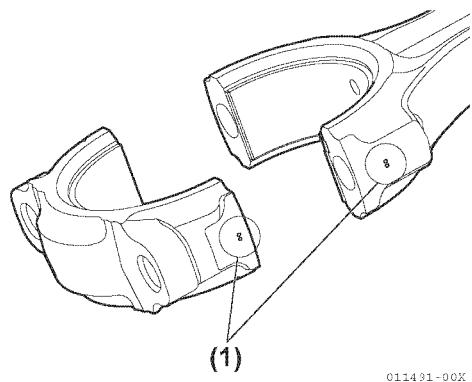

Figure 5-100
- When installing the connecting rod to the crankshaft, make sure to match the alignment marks on the rod cap (**Figure 5-100**).